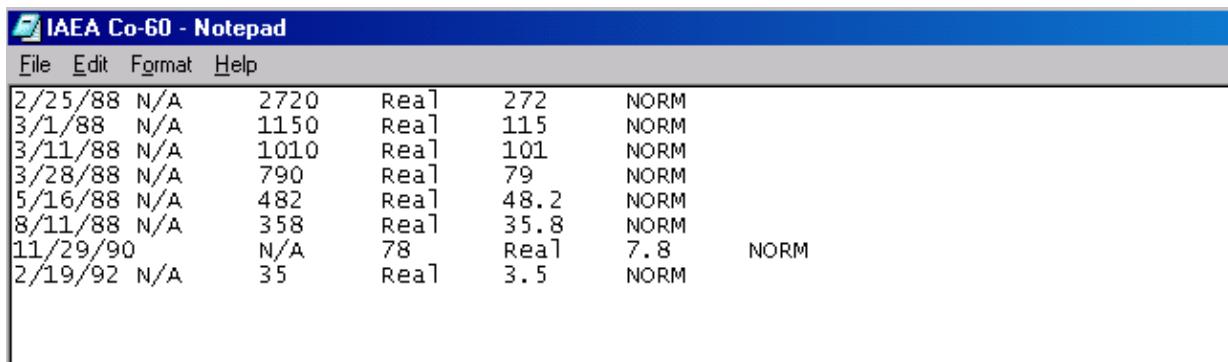

Figure 7.25. Text data file viewed in the **ASCII file import wizard**.
- *view* the data file - Figure 7.25;